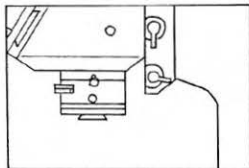

Fig. 3
5. Attach the intermediate polarizing tube. (Fig. 3)